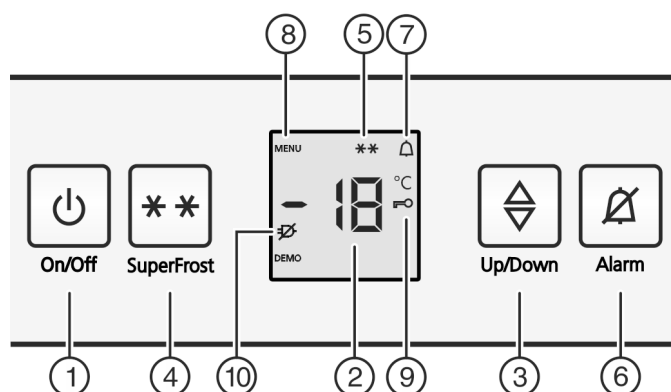

Fig. 2
- The SuperFrost symbol *Fig. 2 (5)* flashes together with the temperature display.*
- Press the On/Off button *Fig. 2 (1)*.
- Activate setting mode: press the SuperFrost button *Fig. 2 (4)* for approx. 5 seconds.
- ▷ The Menu symbol *Fig. 2 (8)* is shown on the display.
- Briefly confirm with the SuperFrost button, *Fig. 2 (4)*.
- ▷ The child lock symbol *Fig. 2 (9)*, lights up on the display.
- Briefly press the On/Off button *Fig. 2 (1)*.
- ▷ The child lock symbol *Fig. 2 (9)* goes out.
- Press alarm button *Fig. 2 (6)*.
The temperature display and the alarm symbol *Fig. 2 (7)* flash at the same time.
The audible alarm is automatically silenced, the alarm symbol *Fig. 2 (7)* goes out and the temperature display stops flashing when the temperature is sufficiently cold again.
- ▶ Press alarm button *Fig. 2 (6)*.